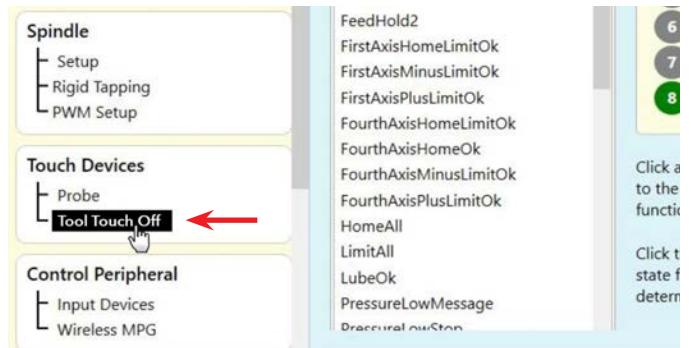

FIGURE 13
9. Click on “Tool Touch Off” to open the Tool Touch Off page (see Figure 13).